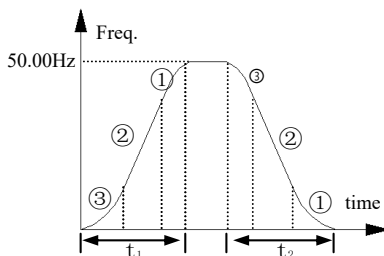

Fig.7-2 S curve acc/ dece
**1: S-curve acceleration and deceleration mode.** Output frequency raises or declines as S-shaped curve, as Fig. 7-2.
S curve starts interval time as fig.7-2③ output frequency changeslope increase slowly from 0.
S curve up interval time as fig.7-2②, output frequency changeslope is constant.
S curve ends interval time as fig. 7-2①, output frequency changeslope decrease slowly to 0.